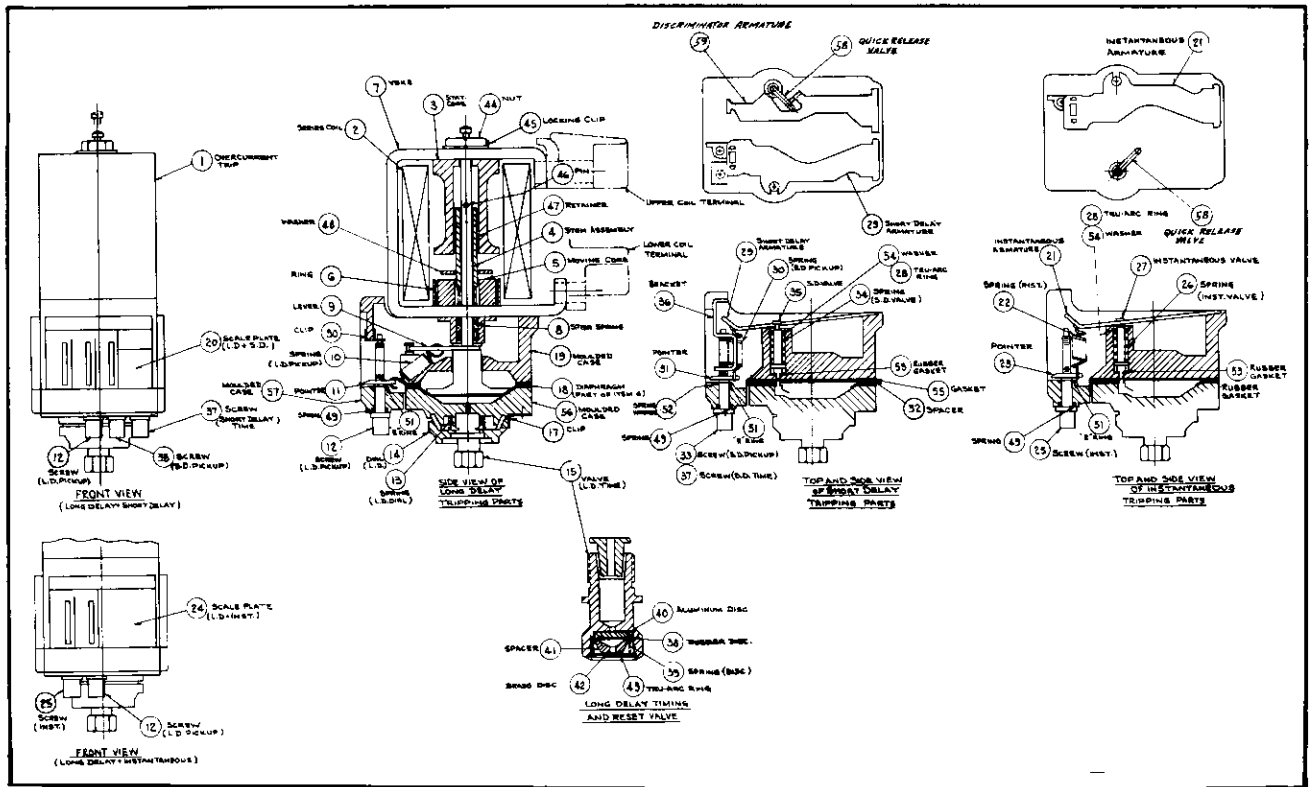
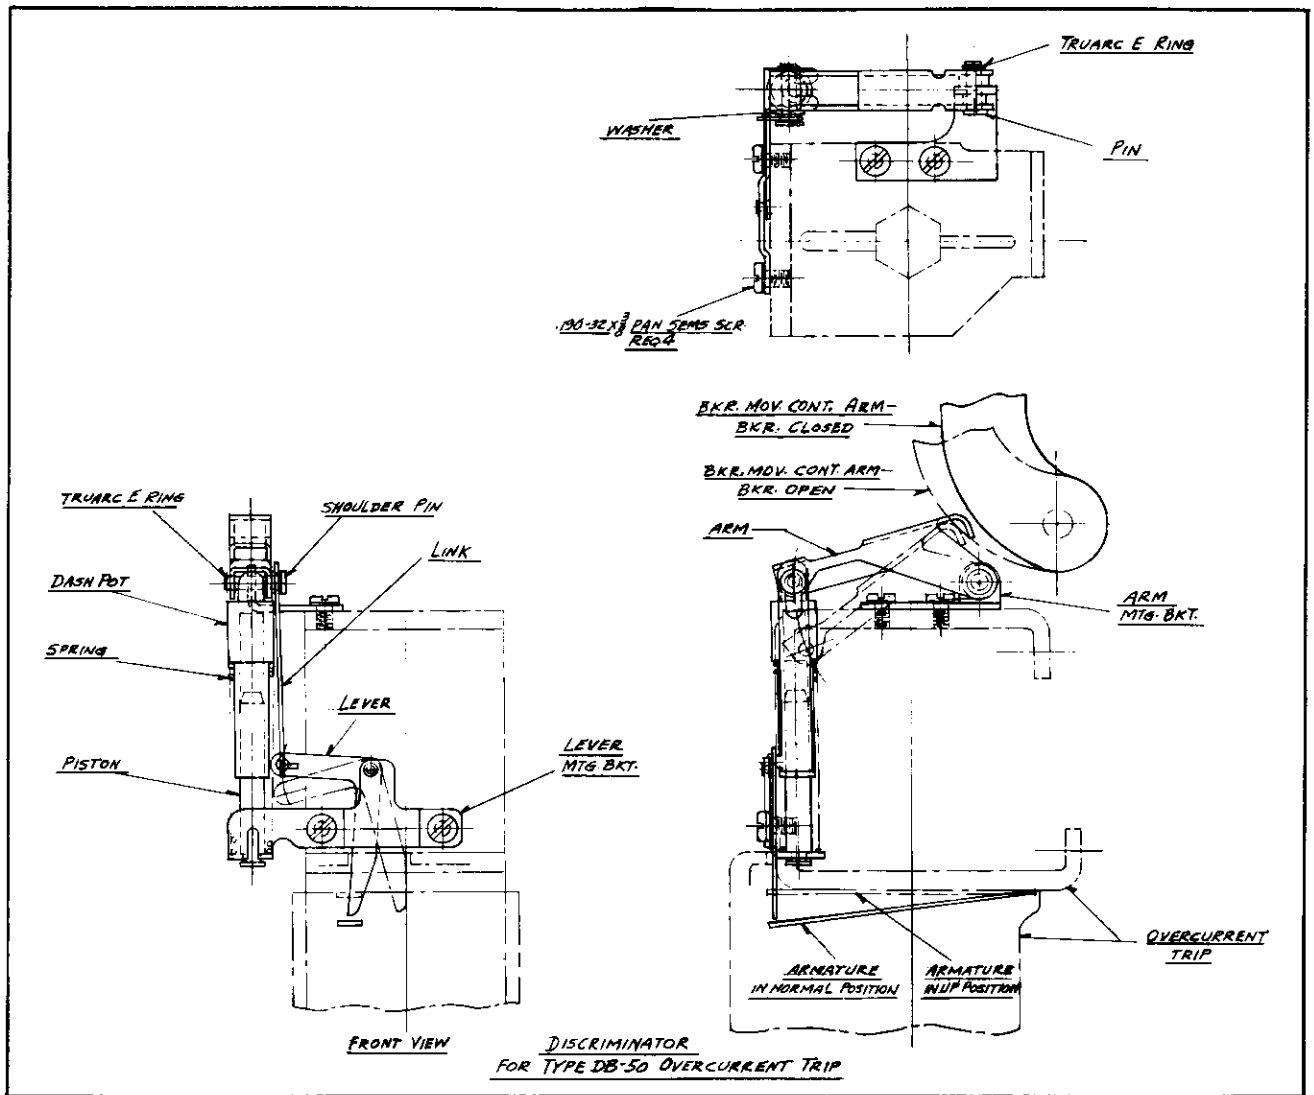

Fig. 6 - Cross-Sectional View of Series Overcurrent Tripping Device with Long Delay and Instantaneous Elements
Fig. 13 - Discriminator for Tripping Device
To manually check the overtravel refer to Fig. 6. The air delay device can be made inoperative by opening the instantaneous valve (or the short delay valve in the case of selective type tripping devices). The valve is opened by lifting the instantaneous (or short delay) armature. A slot is provided in the side of the molded case and a small rod approximately 1/16 diameter can be entered through the side of the case and used as a lever to lift the armature. After the valve is blocked open, the trip plunger
As seen from the sectional view Figure 6, the magnet frame and coil assembly consists of a yoke, a coil, a stationary and moving core together with their necessary insulation.
B. A quick release valve (shown in Fig. 6 - short delay tripping parts) which functions as described for dual overcurrent tripping device.
C. Discriminator armature, Fig. 6.
The discriminator operating linkage, Fig. 13 and the discriminator armature, Fig. 6 are used on the selective overcurrent tripping device to make the device behave as an instantaneous type tripping device while the breaker is being closed and for approximately 0.5 seconds after closing. During this period, the discriminator armature is free to lift the quick release valve and permit instantaneous tripping, if the current is greater than the discriminator armature pick-up setting. If the current does not rise above this value, the breaker remains closed and the discriminator linkage assumes a position which makes the discriminator armature inoperable and restores the selective tripping feature to the tripping device.
The long delay pick-up can be adjusted by means of P, Figure 10, also shown in Figure 6. The unit has been calibrated and the calibration plate marked at five settings, namely 80, 100, 120, 140 and 160 percent of the coil rating. The pick-up was placed on the 100 percent setting before shipment. A different setting can be obtained by carefully turning the adjusting knob with the help of a small screwdriver inserted in the slots for that purpose.
The long delay can be adjusted by means of the long time adjusting dial S, Figure 10, also shown in Figure 6. The dial adjustment is limited to slightly less than one turn. Two points have been calibrated at the factory and are indicated by white marks on the outer edge of the dial. The dial has markings from 1 to 10. When the higher-numbered white mark on the dial coincides with the white indicator on the front of the lower case, the tripping time will be the higher long delay value shown in seconds on the scale plate. Conversely, when the lower-numbered white mark on the dial coincides with the white indicator on the front of the lower case, the tripping time will be the lower long delay value shown in seconds on the scale plate. These tripping times are calibrated with currents which are 600 percent of the coil rating applied. The dial settings are scribed on the scale plate under long delay dial setting heading.
The instantaneous pick-up can be adjusted by means of knob N, Figure 10, also shown in Figure 6. The instantaneous pick-up has been calibrated at 8 and 12 times or 5 and 10 times the coil rating at the factory. The adjusting knob can be turned carefully with the help of a small screwdriver inserted in the slots for that purpose, if a different setting is desired.